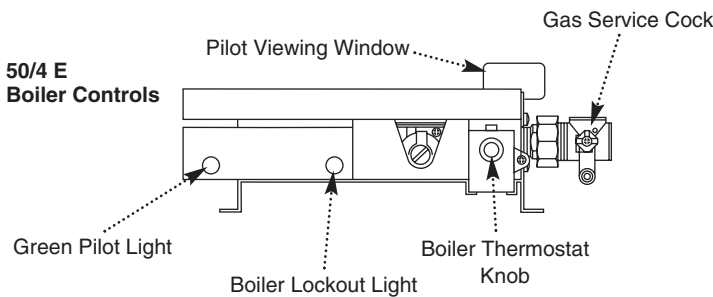

Fig. 2
3.1 To light the boiler (Fig. 2 & 2a)
3.2 To adjust the boiler temperature (Fig. 2 & 2a)
1. **Inset 2 Boiler 50/4 E Model** (Fig. 2). If the boiler lockout light is illuminated, it is necessary to reset the appliance. To do this turn the boiler thermostat control knob fully anticlockwise to the OFF position and wait 10 seconds. Turn the control knob clockwise to the required setting. The boiler will commence the ignition sequence providing the water temperature is sufficiently cool.
3.4 To switch off the boiler for short periods (Fig. 2 & 2a)
1. Turn the boiler thermostat knob fully anticlockwise to the off position (O) until it clicks.
3.5 To switch off the boiler for long periods (Fig. 2 & 2a)